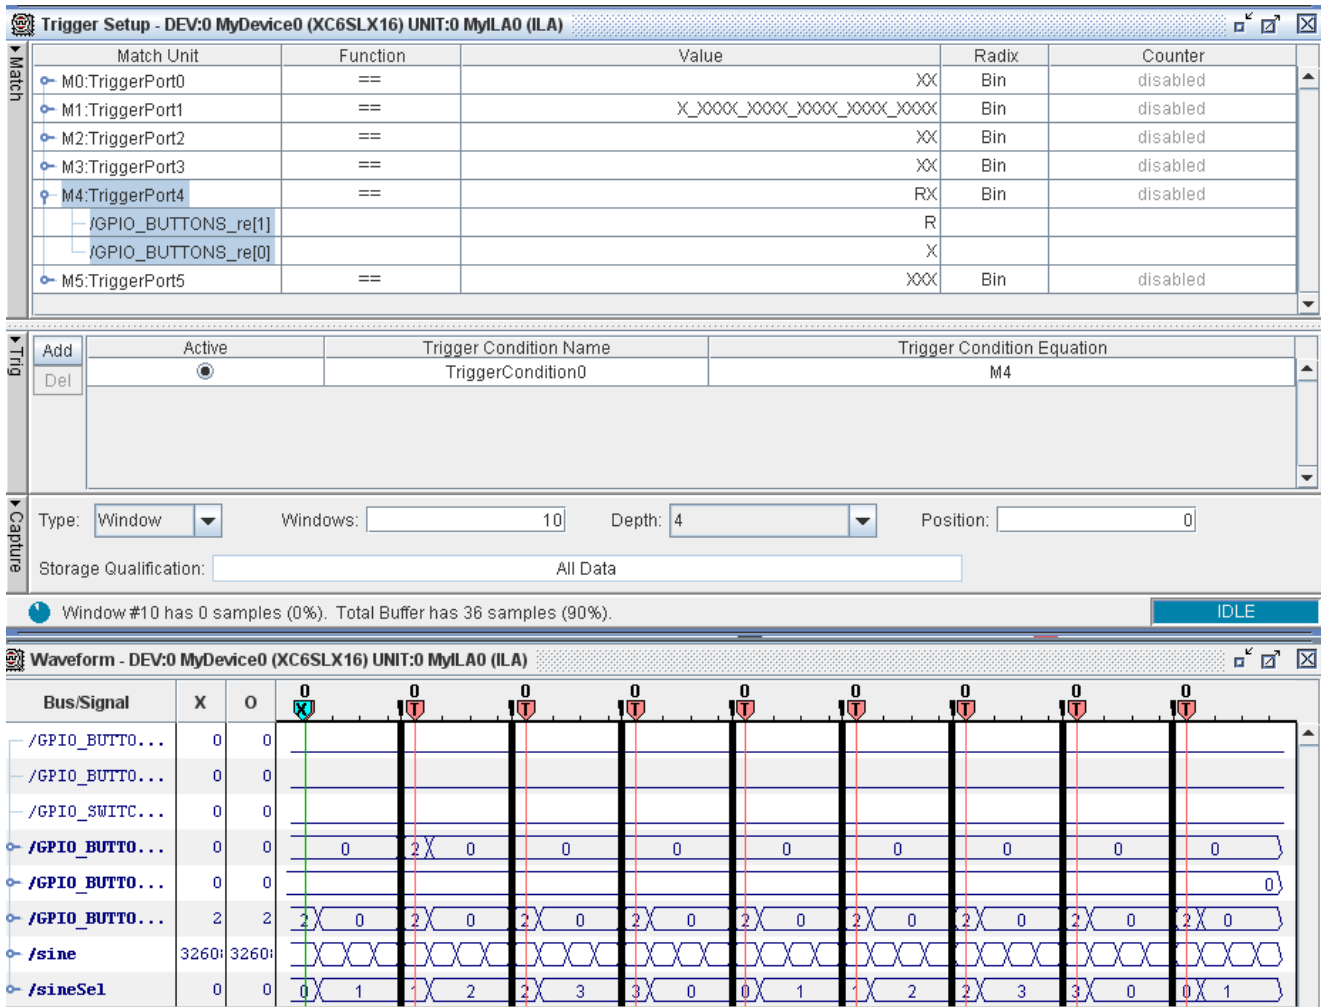

Figure 7: Sample View of Display Setting and State Machine Glitch
3. In the **Trigger Conditions** area of the **Trigger Setup** window, click inside the **Trigger Condition Equation** field. In the resulting dialog box, ensure that the appropriate match unit is enabled. You can tell that the correct match unit is enabled if it is highlighted in blue, as shown in Figure 7, page 17.
- In the **Capture** area of the **Trigger Setup** window, shown in Figure 7, change the settings as follows:
3. Push the *Sine Wave Sequencer* button on the SP601 board. Each button push generates one or more “windows” that show segments of time on the time axis of the waveform. Observe the number of windows captured in the status bar that appears just below the capture settings. (The status bar is shown in Figure 7, page 17.) If more than one window is captured with a single push of the button, you have determined that there is an issue on the `GPIO_BUTTON[1]` input. If only one window is captured, try again. You might have to push the button several times to reproduce this intermittent glitch. As soon as a single button push generates multiple windows, go on to the next step.